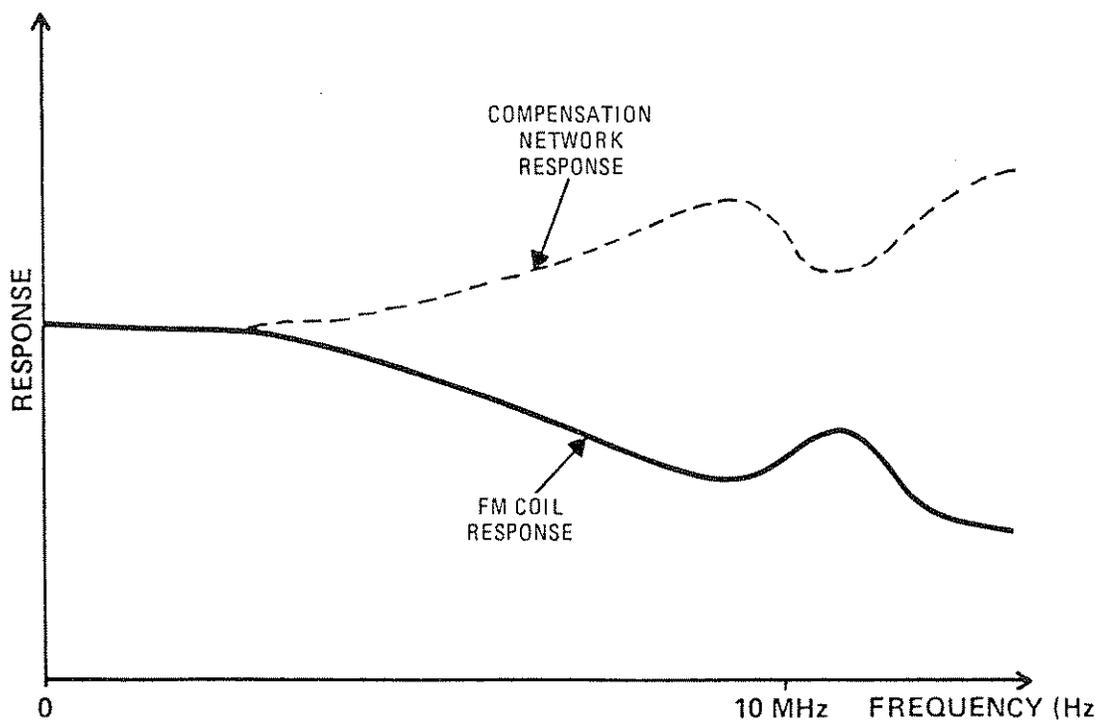

Figure 8-38. Plot of FM Coil Response Versus Frequency
The output of the filter network is limited to about + 3V with a network made up of A5VR1, A5VR2, A5R14, A5R15, A5CR3, and A5CR4. A5Q5A and A5Q5B are connected as emitter followers and buffer the output of the filter network to video amplifier A5U10. Analog switch A5U11 is always set to switch position zero. Frequency response shaping to compensate for the roll-off versus frequency of the FM coil is produced by the network made up of A5C11, A5C12, A5C14, A5R21, A5R22, A5R23, A5R75, and A5L1 connected across pins 9 and 4 of A5U10. This network is actually in the emitter of the input differential amplifier of A5U10 producing greater gain with decreasing impedance. Figure 8-38 shows the approximate response versus frequency of the YIG FM coil and the compensation network. Adjustments A5R19 (FM OFFSET), A5R75 (HI), and A5C14 (LO) adjust the shape of the compensation network response.